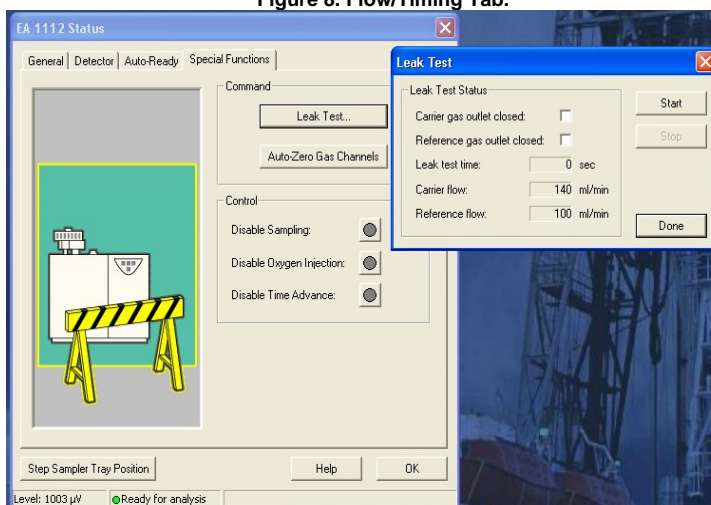

Figure 9. Special Functions Tab and Leak Test Screen.
8. Select the **Special Functions** tab (*Figure 9*).